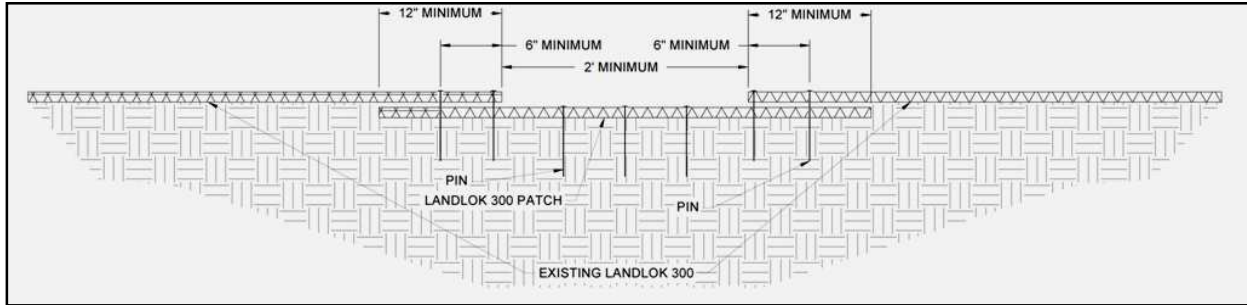
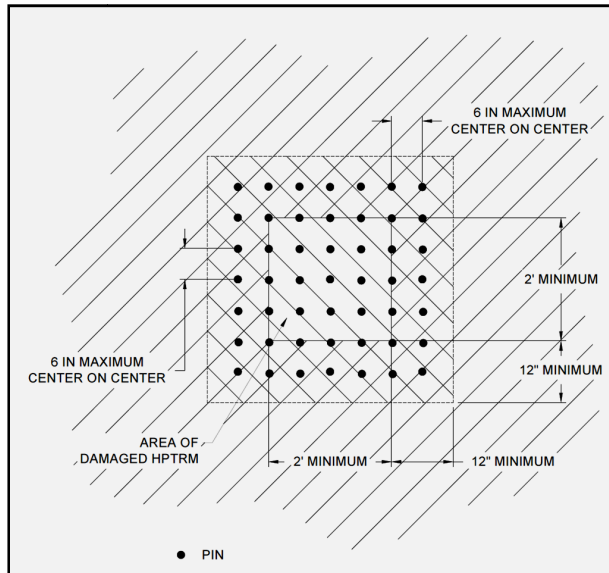

Figure 14: Landlok 300 Patch Cross Section
Figure 15: Landlok 300 Patch Plan View
- A. *Acceptable* (A) - The rated area is in satisfactory, acceptable condition, and will function as designed and intended during the rain event. Landlok 300 has no exposed edges, is installed tightly by maintaining direct contact to the slope surface with no rilling beneath, and has over 90% vegetation cover. There is no noticeable damage present.
- B. *Minimally Acceptable* (M) - The rated area has a minor deficiency that needs to be corrected. The minor deficiency will not seriously impair the functioning of the area during the next rain event; however, the overall reliability of the project will be lowered because of the minor deficiency. Landlok 300 has 75% vegetation cover with un-vegetated patches as large as one square yard. Edges of Landlok 300 are exposed with noticeable damage. Minimal erosion has occurred underneath Landlok 300.
- C. *Unacceptable* (U) - The rated area is unsatisfactory. The deficiency is so serious that the area will not adequately function in the next rain event. Landlok 300 has been physically torn, ripped, or lifted from the slope surface. Less than 75% vegetation cover is present with un-vegetated patches being greater than 1 square yard, and there is evidence that erosion is occurring beneath Landlok 300.
3. To repair Landlok 300, cut out and remove damaged areas in a square configuration a minimum size of 2 ft by 2 ft. Remove all vegetation and debris atop of Landlok 300. Loosen the top 1 to 2 in of soil in the patch area then seed. The subgrade of area to be patched shall be prepared to be smooth and uniform and transition smoothly into the in-situ area. Cut a square Landlok 300 patch a minimum of 12 in greater than the damaged area for all four sides of the patch. Overlap the patch area in all directions a minimum of 12 in. The patch overlaps shall be tucked under the existing damaged Landlok 300 material (Figure 14 and Figure 15)